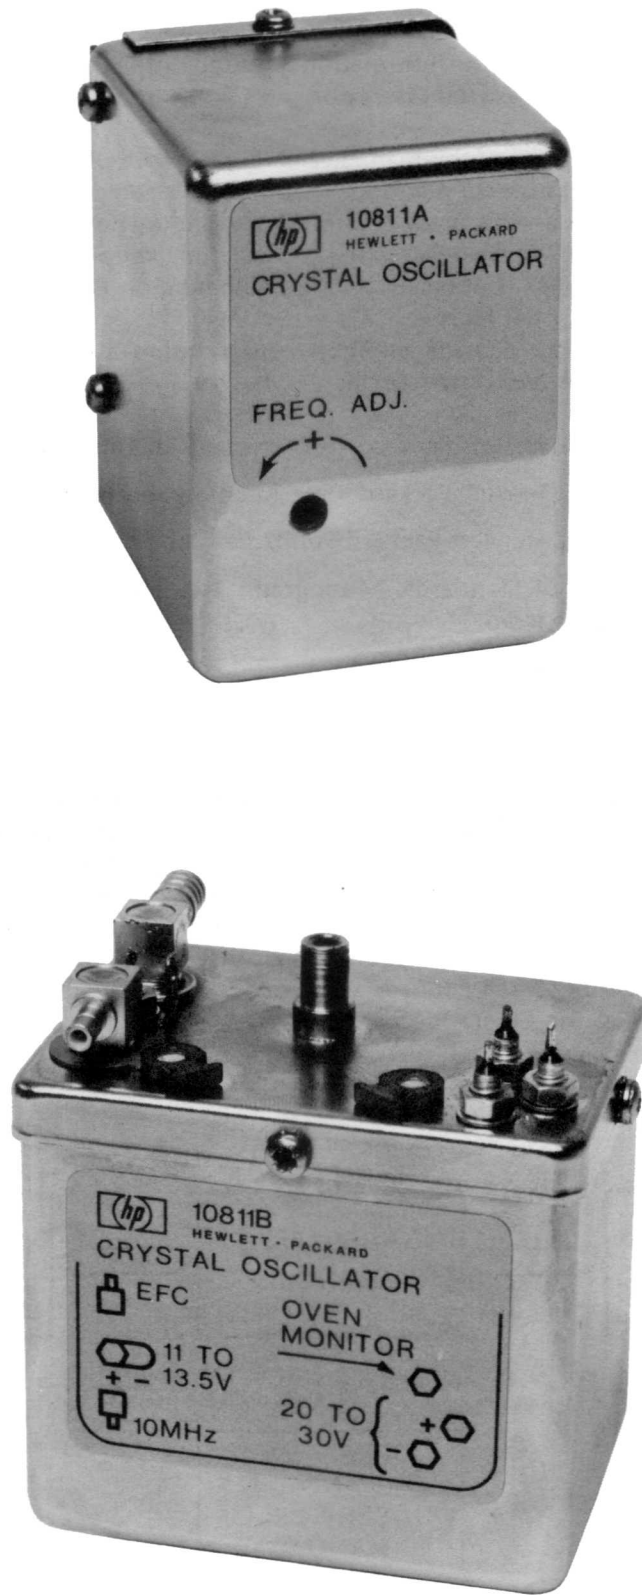

Figure 1-1. 10811A and 10811B Oscillators
- 1-2. This manual provides information pertaining to the installation, operation, testing, adjustment, and maintenance of the HP Model 10811A/B Quartz Crystal Oscillator. Figure 1-1 shows the 10811A and 10811B.